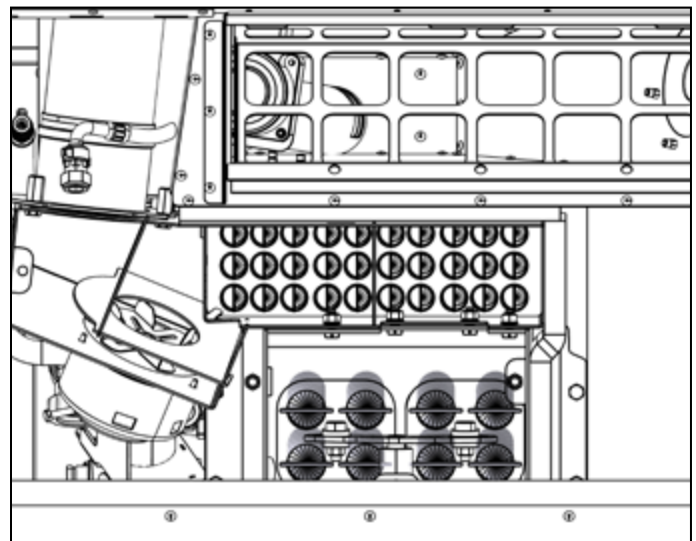

Figure 12-4: Primary heat exchanger spirals
- Remove all eight mild steel spiral baffles by lifting them vertically up and out from the primary heat exchanger tubes. Refer to Figure 12-4.